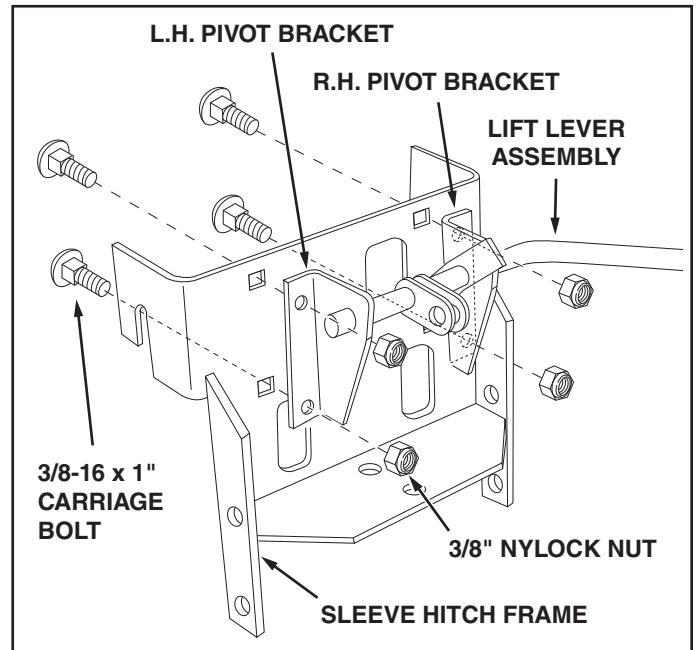

FIGURE 5
- Place the L.H. Pivot Bracket onto the end of the Lift Lever Assembly (the R.H. Pivot Bracket comes already installed on the assembly). See figure 5.
- Attach the R.H. and L.H. Pivot Brackets to the Sleeve Hitch Frame Assembly using four 3/8" x 1" carriage bolts and 3/8" nylock nuts. See figure 5.